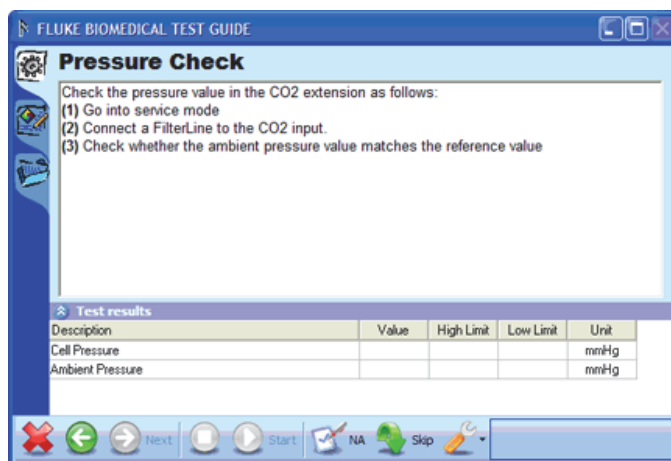

Figure 3-39. Preview of Numerical List
13. Click the **Abort** button (X) to return to the test template. When asked if you want to abort the test template, you must click the **Yes** button. The Test Guide for the numerical list will be displayed as shown in Figure 3-39.